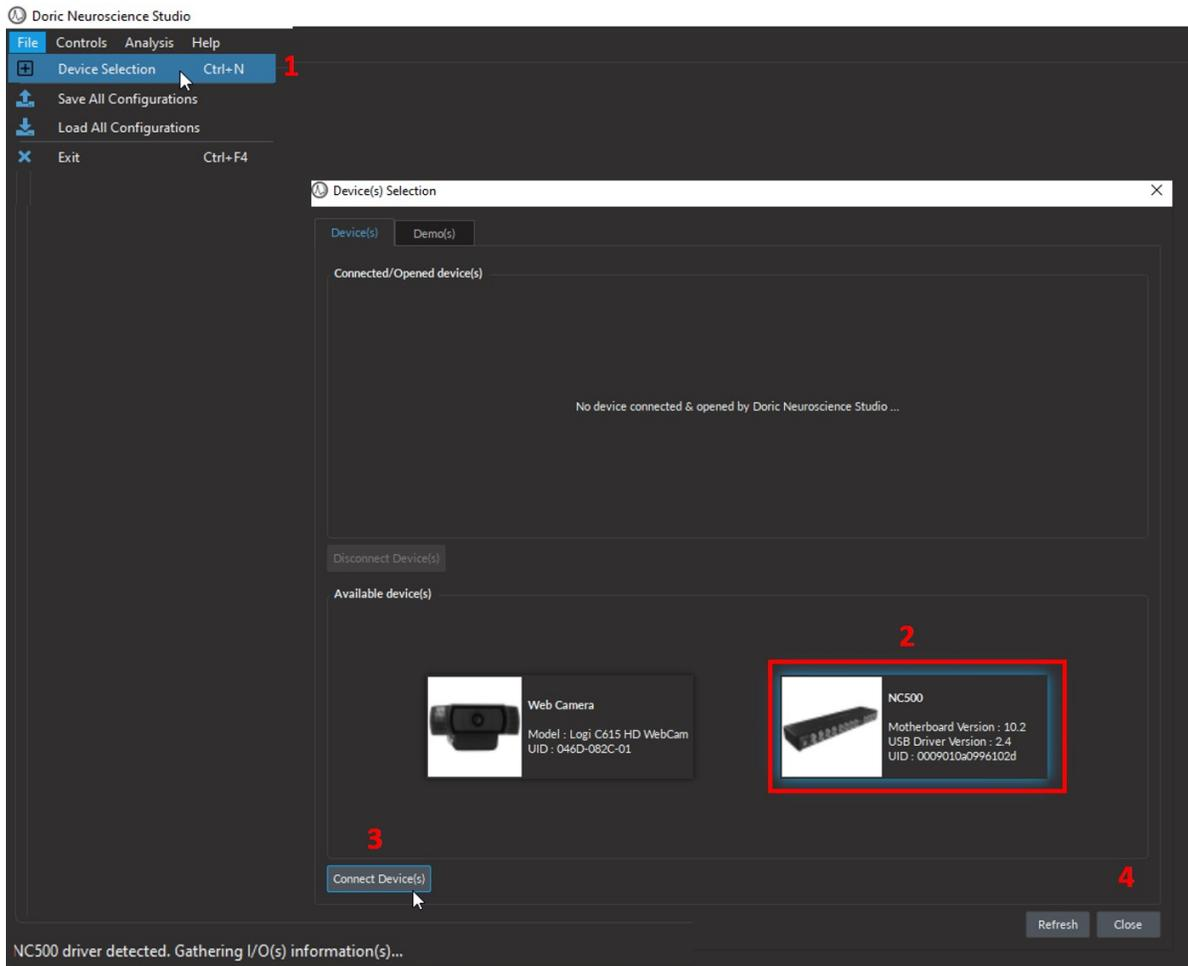

Figure 2.4: Device Selection
1. Open the DNS software. In the “Device Selection” window, select your console (NC500 or BBC300) and click “Connect Device”. Once connected, close the window (Figure 2.4).